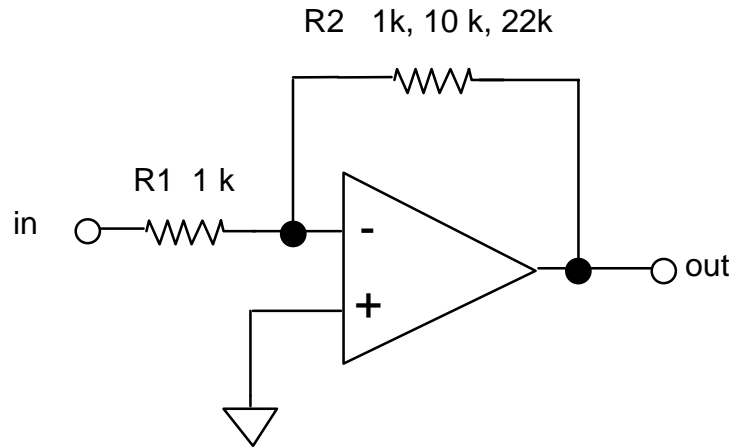

Figure 7-3 Inverting amplifier
• Measure the values of your resistors, then using the prototyping board, wire up the inverting amplifier shown in Figure 7-3.